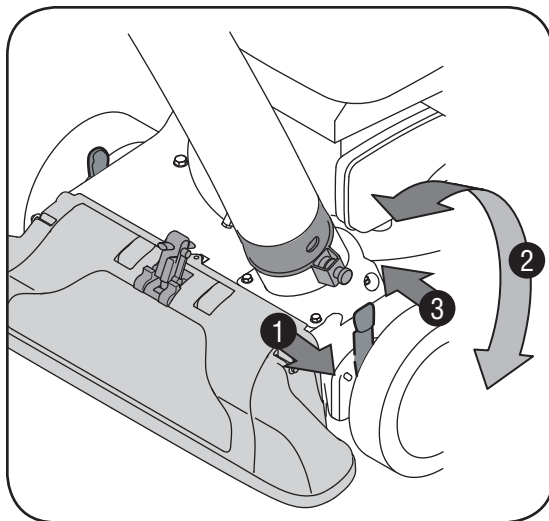

Figure 14
1. Depress nozzle height adjustment lever towards wheel. See Figure 14.